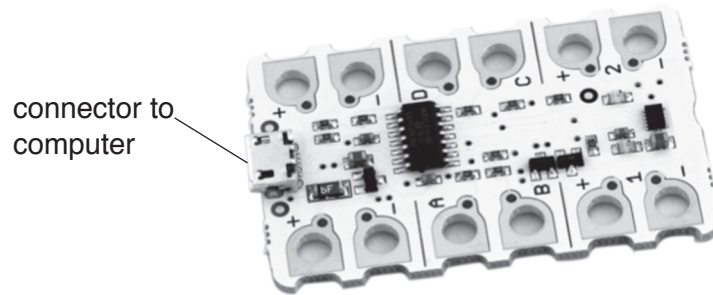

Fig. 3
- 17 (a) Fig. 3 shows a circuit board used for computer control of LEDs and motors. The circuit board uses surface mount components.